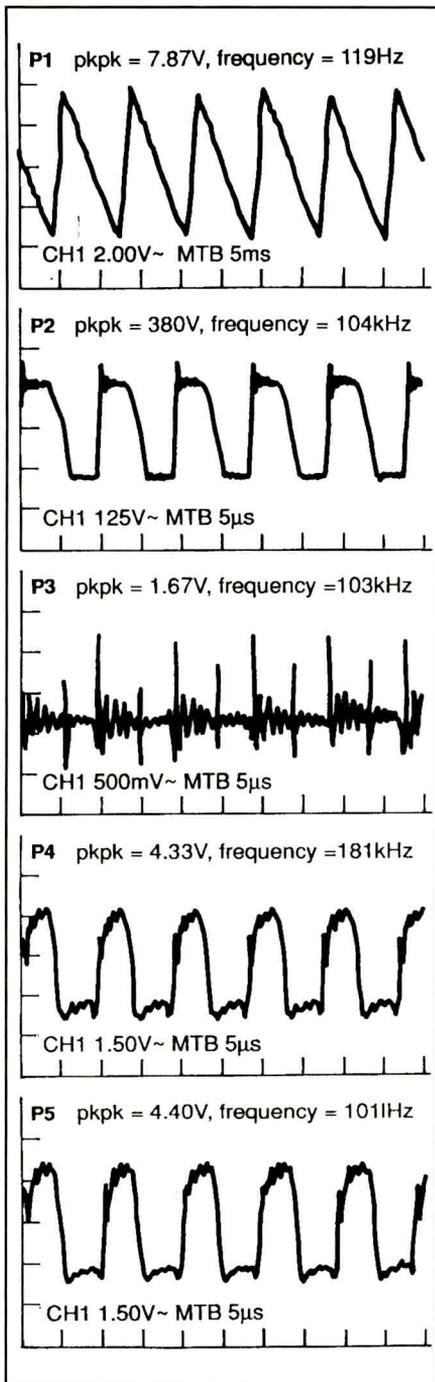

Figure 4. Critical waveforms observed in the circuits in this set.
(1) Ground pin one of 7908 to prevent the +8V from coming up. The microprocessor remembers the last state it was in before power was lost. If the power supply failed while the TV was on, the microprocessor "remembers" that TV was on and attempts to turn it on when ac is applied. Grounding pin one of 7908 inhibits horizontal deflection while permitting the power supply to come on line at the pace you desire. You see, you are guarding against possible additional damage to the set.
(2) Plug the power cord into an isolation transformer-variatic that has been set to 0V and begin to bring the ac up slowly to about 50V while you monitor pin three of 7902 with an ac-coupled scope. Look for a waveform similar to the one labeled "P 2" in Figure 4 with a peak-to-peak value of about 220V.
(3) Measure the output voltages using the "expected voltages chart" I gave you earlier. If the voltages are normal, increase the ac to the full 120V. Now you should see a 300V_{pp} waveform at pin 3 of 7902. If everything checks okay, remove ac and the jumper you installed, and see what happens when you fire the TV up.